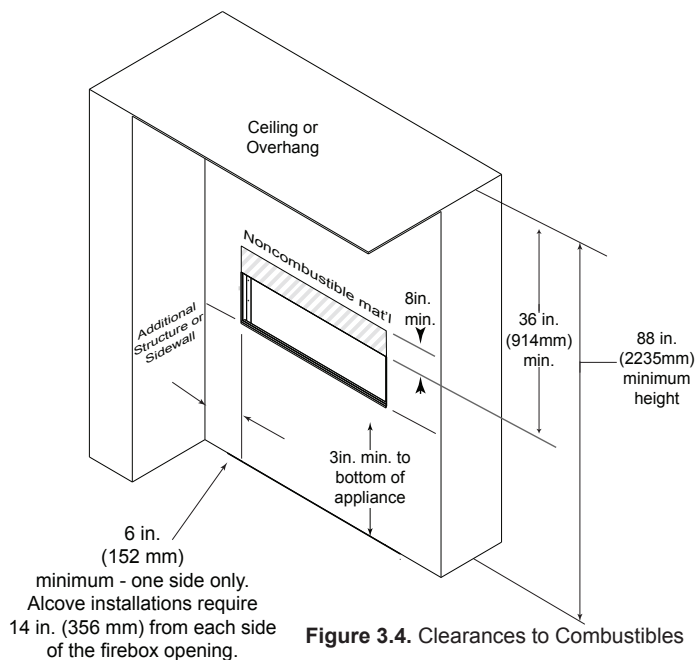

Figure 3.4. Clearances to Combustibles
Dimensions are actual appliance dimensions. Use for reference only. For framing dimensions and clearances refer to Figure 3.2 and Figure 3.4.
- Noncombustible wall sheathing material is required 8" above the appliance. (See Figure 3.4)